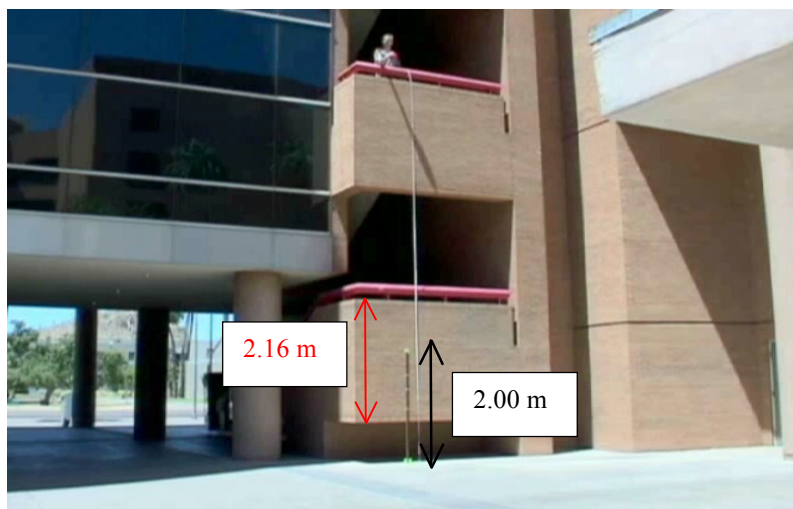

Fig.3 . Free fall calibration standards.
3. Then use the Set Scale tool () to set a distance scale on the movie. Click and drag across some object of standard length in your video. Enter its length in the dialog box. For instance it could be the height of the first floor protruding wall ($H_{\text{wall}} = 2.16 \text{ m}$) or the hard to see 2-m meter stick resting against the wall (see Fig. 3). For this and the next step open the movie window as much as it is needed for good markings.